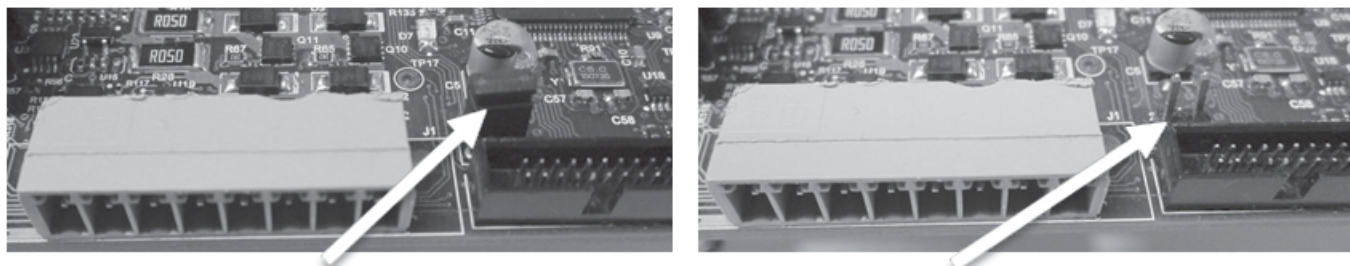

Figure 7-7. Jumper Cap for Hysteresis & Dual Probe Fault Mode Selection
**Caution** .The back-up system is designed to inject refrigerant ( $\text{CO}_2$  or  $\text{LN}_2$ ). In the unlikely event of both probes failing, the back-up system will operate in PWM or Non-PWM mode based on jumper setting (Figure 7-7) ▲
For Hysteresis & Dual probe fault mode settings (Figure 7-7), locate Jumper J17 near to solenoid/ sensor connector (J1), refer to table below for operation details: